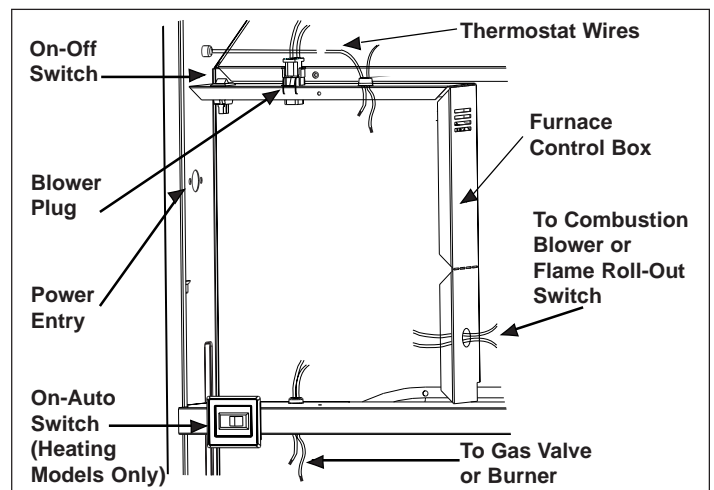

Figure 5. Control Panel (All Models)
- Connect the thermostat wires to the furnace low voltage pigtails (see Figure 5).